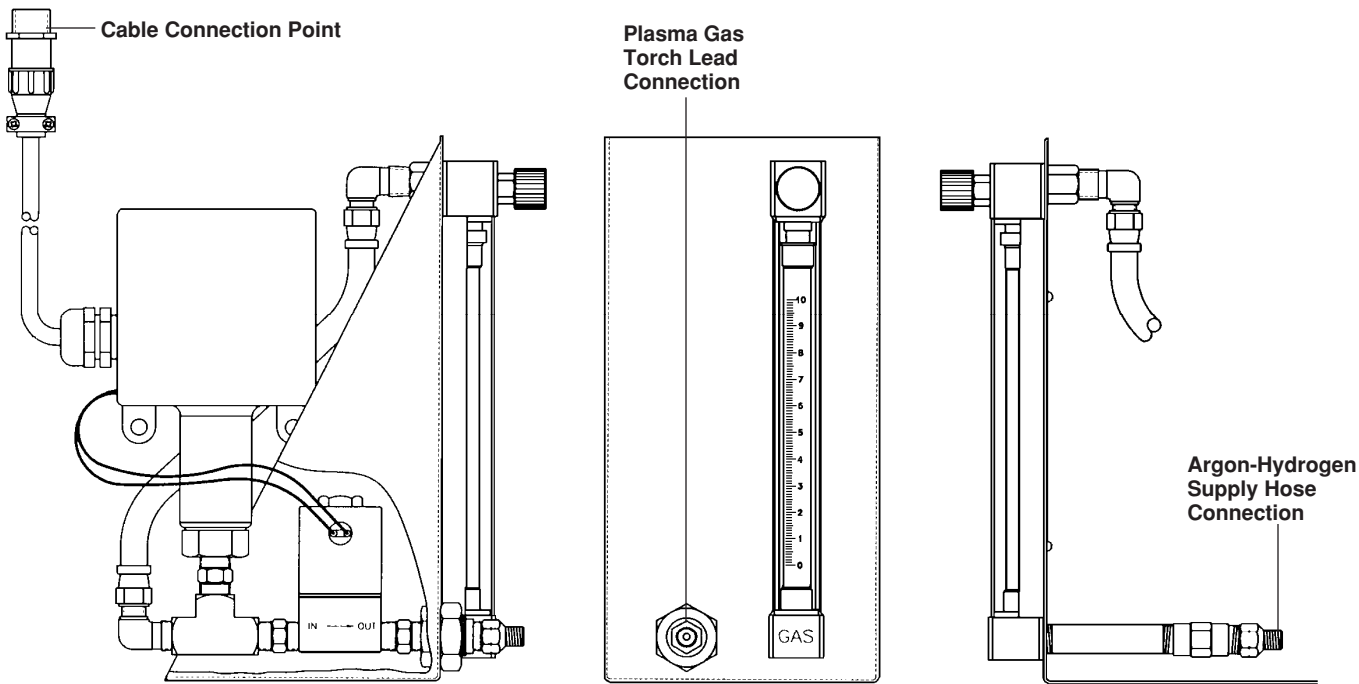

Figure a-2 Argon-Hydrogen Manifold Connection Points
- 1. Connect the receptacle end of the argon-hydrogen cable to the cable connection point on the argon-hydrogen manifold. (Figure a-2)
- Attach one end of the supply hose to the argon-hydrogen supply tank regulator, and attach the other end to the argon-hydrogen supply hose connection on the manifold. (Figure a-2)